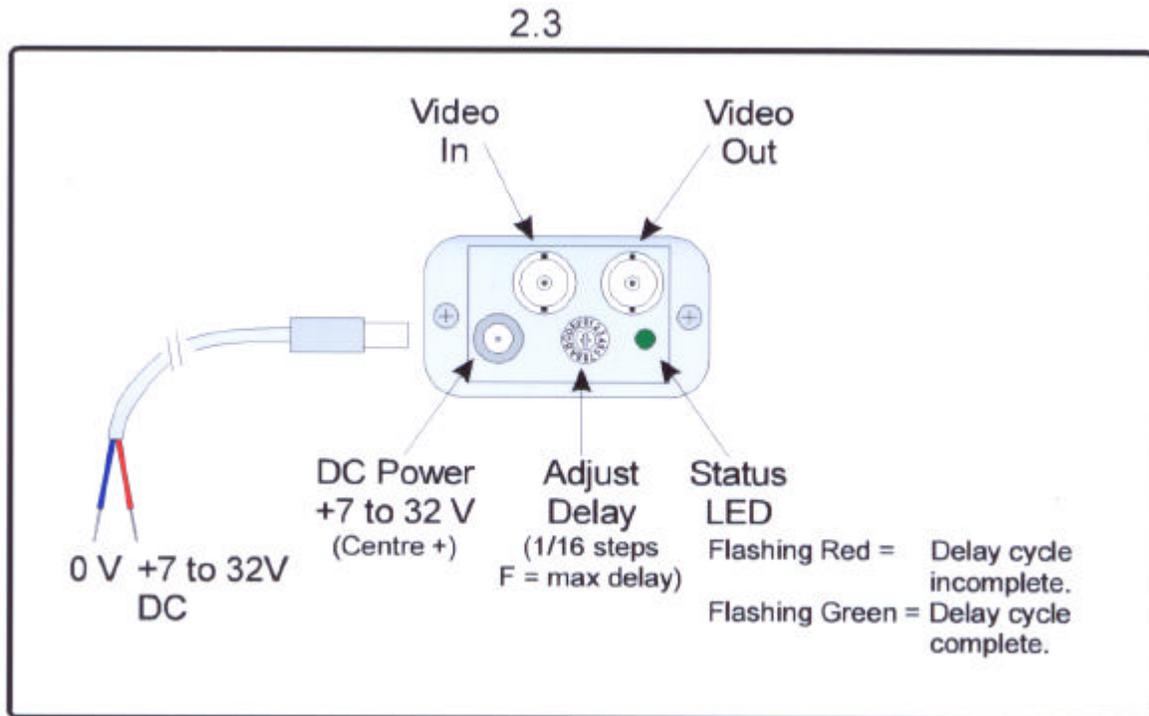

Figure 2: Typical DelayLine Installation
2.1 Connect video inputs and outputs as shown in Figure 2. Video input / output levels are 1 Vpp into 75R.